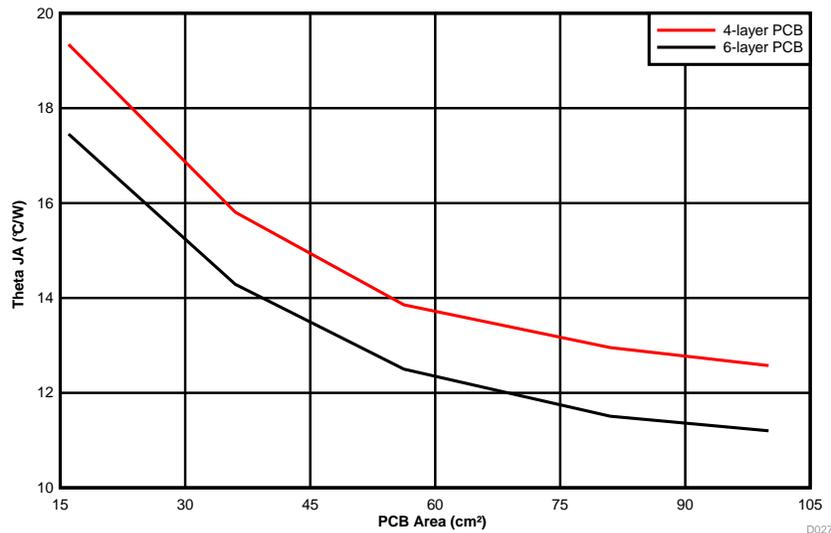

图 52. θ_{JA} vs PCB Area
The amount of PCB copper effects the thermal performance of the device. 图 52 shows the effects of copper area on the junction-to-ambient thermal resistance ($R_{\theta JA}$) of the LMZM33604. The junction-to-ambient thermal resistance is plotted for a 4-layer PCB and a 6-layer PCB with PCB area from 16 cm² to 100 cm².
3. Reference 图 52 to determine the minimum required PCB area for the application conditions.